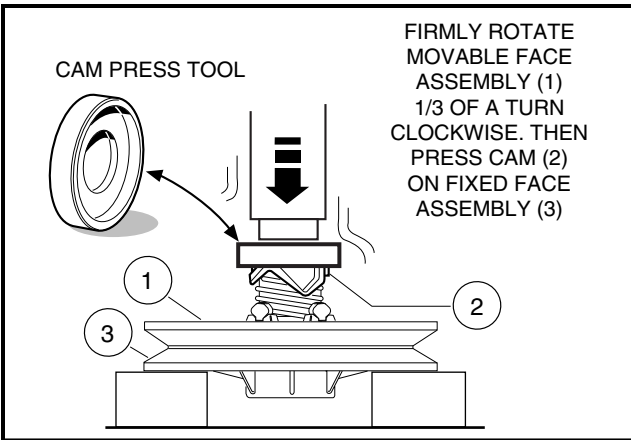

FIGURE 16-21
- 6. Place the clutch assembly in a press and position the cam press tool (Club Car Part No. 1018091-01) on the cam as shown (Figure 16-21, this supplement). Hold the fixed face assembly and rotate the moveable face assembly (1) one third of a turn clockwise, then press the cam (2) onto the fixed face assembly.